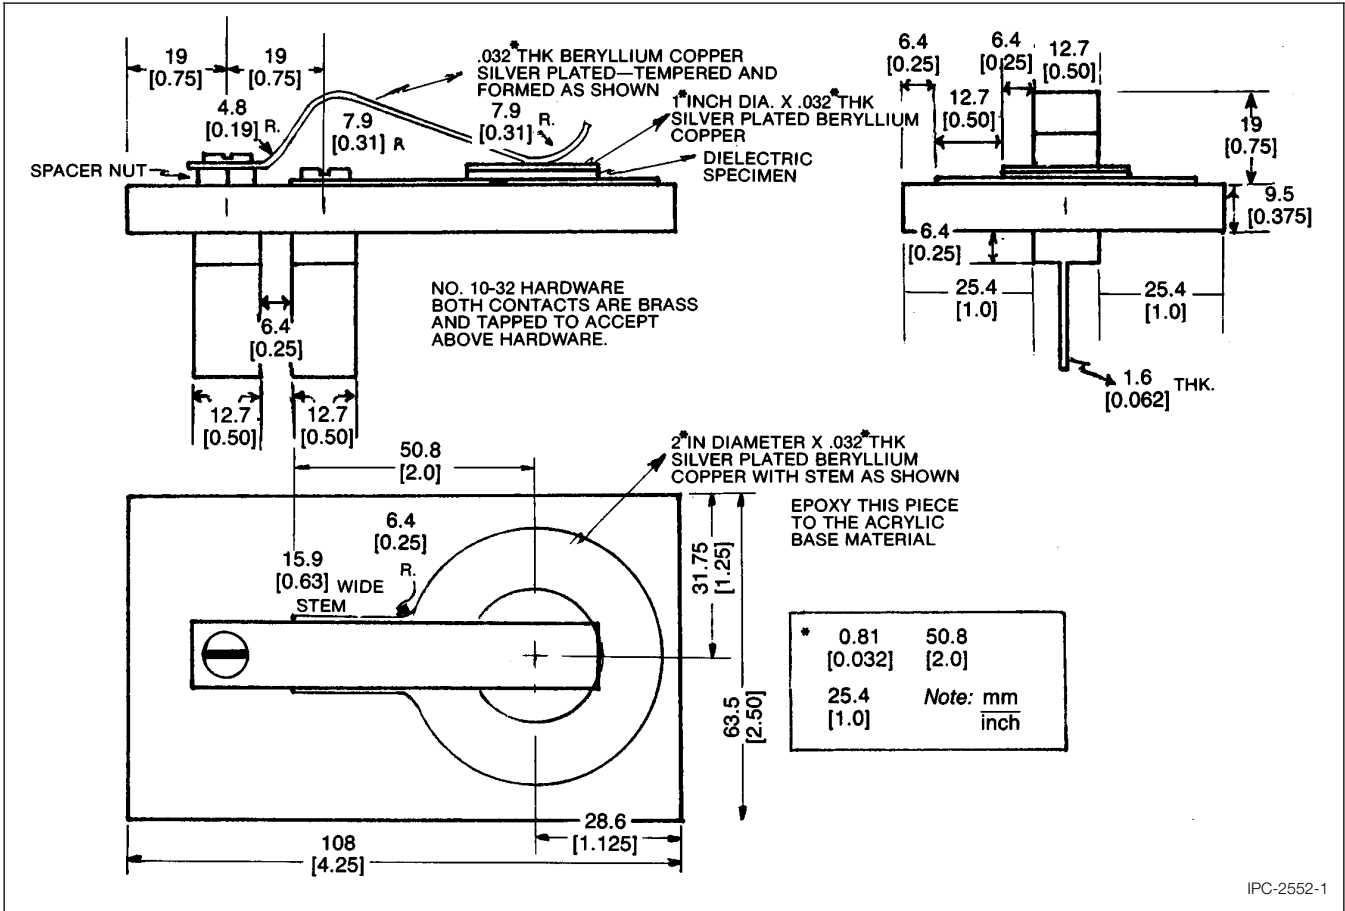

Figure 1 Special Test Fixture for Dielectric Constant and Dissipation Factor Measurements
4.3 Specimen Holder A special specimen holder made as shown in Figure 1. This holder is designed to be compatible with the H/P test fixture, Mdl 16022A.